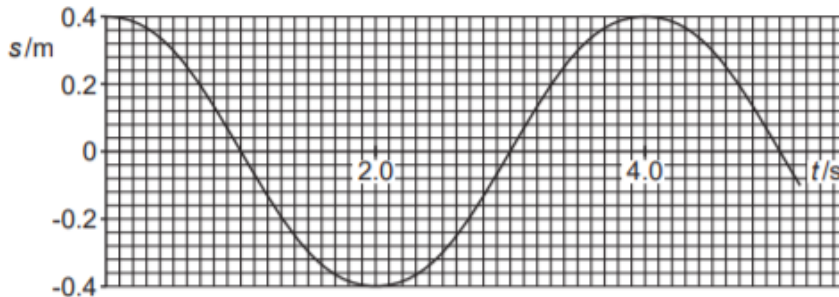

Fig. 6.2
- (e) One end of the spring is fixed and a mass is hung vertically from the other end. The mass is pulled down and then released. The mass oscillates up and down. Fig. 6.2 shows the displacement s against time t graph for the mass.
Explain how you can use Fig. 6.2 to determine the **maximum** speed of the mass. You are not expected to do the calculations.